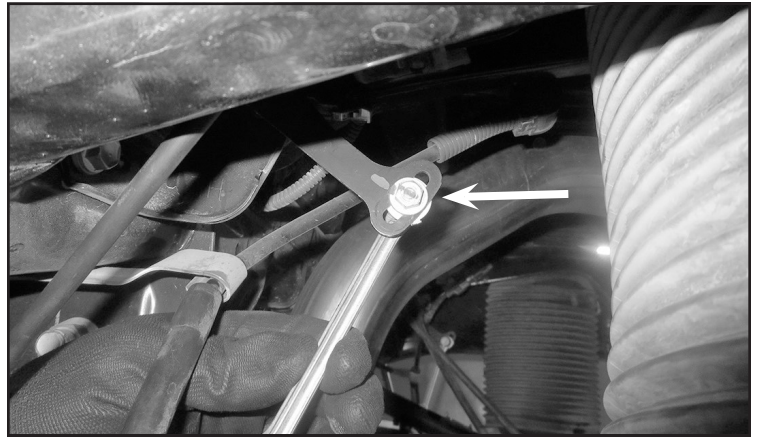

FIGURE 25 - STEP 30
30. On the same height adjustment rod. Loosen the upper nut to position to the center of the frame bracket. Then re tighten. **SEE FIGURE 25**